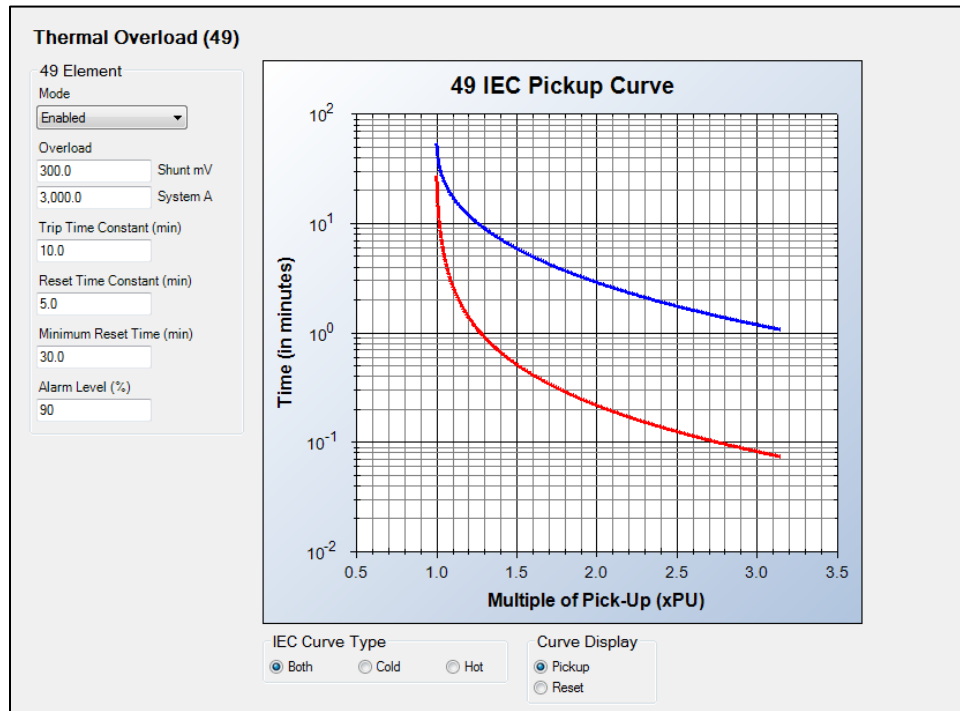

Figure 10-2. Thermal Overload Settings Screen
Thermal overload operational settings are configured on the Thermal Overload (49) settings screen (Figure 10-2) in BESTCOMSPUs.